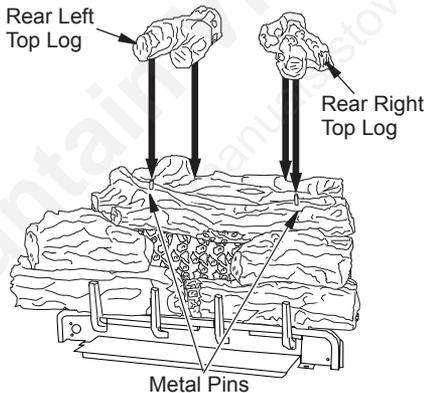

Figure 36 - Installing Rear Left Top Log and Rear Right Top Log
- Place the rear left top log on top of the middle log and the rear log. Match the pin on the middle log with the round hole in the bottom of the rear left top log (see Figure 36). The rear log has a flat area for the back of the rear left top log to set in.
- Place the rear right top log on top of the middle log and the rear log. Match the pin on the middle log with the round hole in the bottom of the rear right top log (see Figure 36). The rear log has a flat area for the back of the rear right top log to set in.